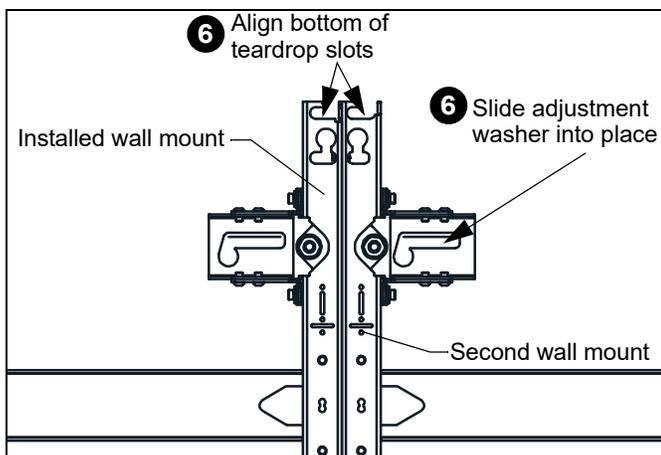

Figure 15
6. Slide the adjustment washer into place behind the partially installed lag screw until the bottom of the teardrop slots are aligned. (See Figure 15)